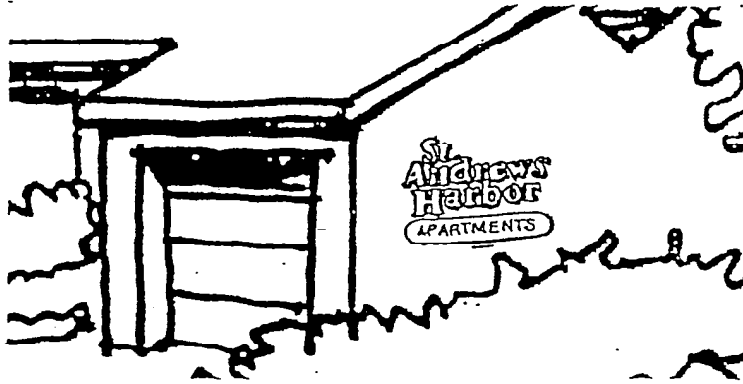

Figure 18
- ☐ Where a suitable vertical building wall is available near the main project entry, provide signage on that wall with individual metal letters attached to the surface or by means of a professionally designed and fabricated board sign attached to the wall surface (Figure 18).